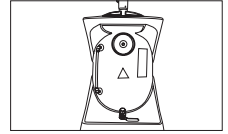

Figure 7
3. Periodically check fluid level gauge to see the amount of recovered oil in the tank. Never fill the tank over maximum level given by the level indicator (Figure 7).